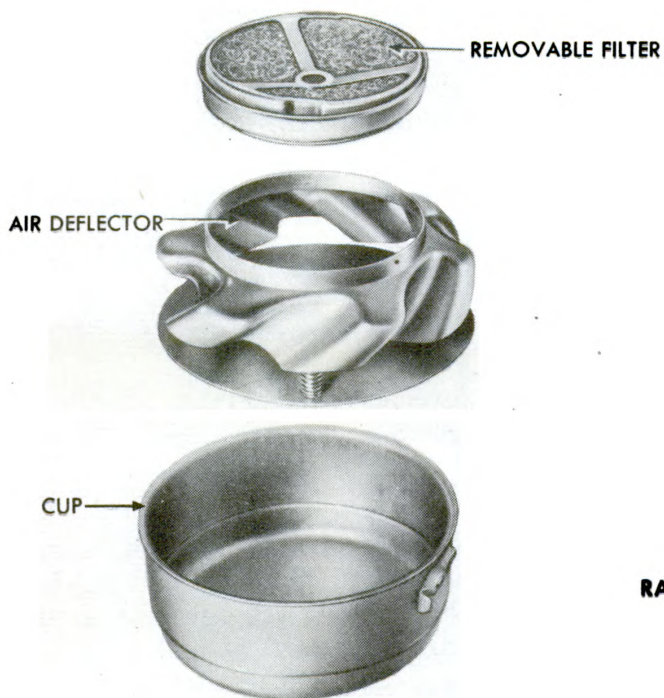

Figure 40 — Air Cleaner Servicing Units
c. Maintenance. Daily, or more often in severe dust conditions, inspect the air cleaner by removing cup, to determine if steel-wire elements, deflector, and oil in cup are dirty (fig. 40). If so, empty oil from cup and clean each unit by washing in **SOLVENT**, dry-cleaning. Place the clean deflector in cup and fill cup with **OIL**, engine (seasonal grade), to level indicated on the center of the deflector. To remove air cleaner cup, push cup up against cleaner body, rotate to left, and lower away from cleaner body. If, on inspection, the steel-wire mesh in cleaner body appears to be dirty, remove entire cleaner assembly and clean mesh in body with **SOLVENT**, dry-cleaning, and allow to dry.